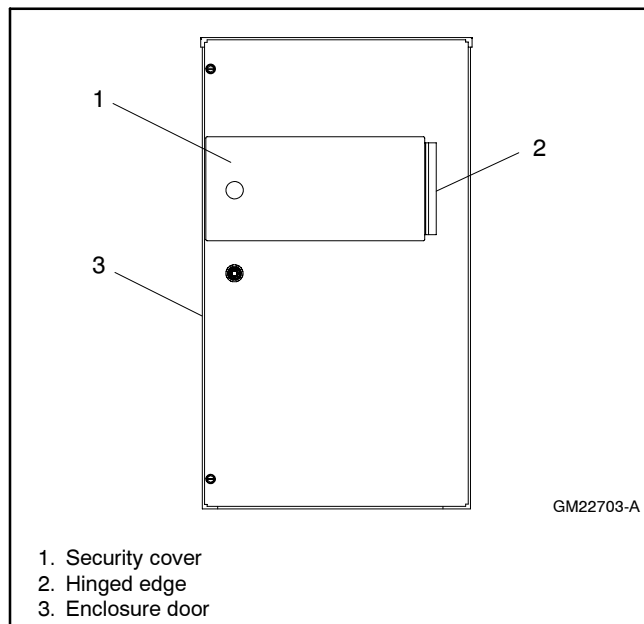

Figure 5 Attaching Security Cover
2.3 Attach security cover GM22504 or GM22505 (with window) to the outside surface of the door using three 10-32 nuts (X-6210-1). Do not final-tighten the nuts at this time. See Figure 5.